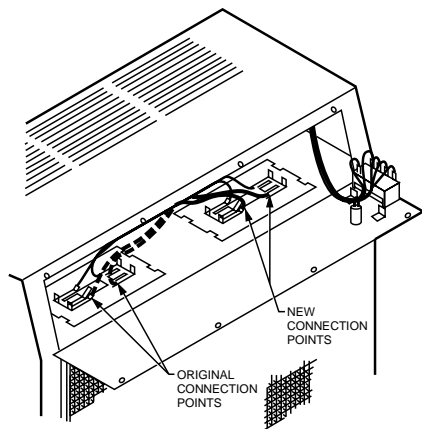

Fig. 16. Use the sheetmetal radio frequency interference shield with F56 and F59.
- On the F54C, move the red ionizer and black collector leads from one to the other contact board. See Fig. 16.